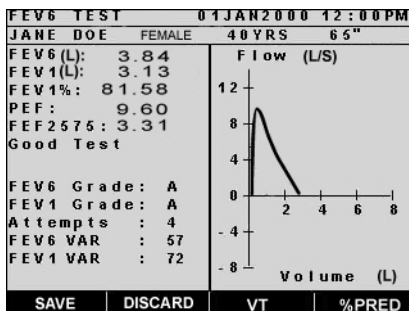

Figure 25: FEV6 Test Complete
6. The FEV6 test will automatically terminate after six seconds. At this time, the spirometer displays the flow-volume curve, measured values, acceptability messages, quality grades, number of maneuvers performed, and FEV6 and FEV1 variability (Figure 25). To view the volume-time curve, press the *VT*